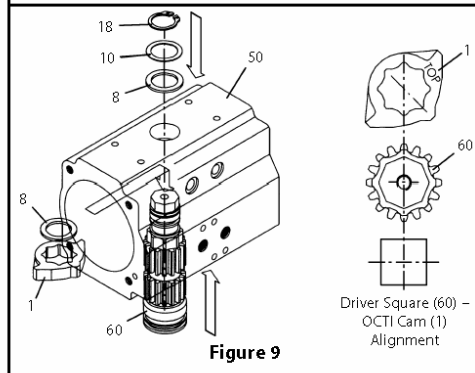

Figure 9
- C. Partially Insert the shaft (60) into the body (50). Install the octi-cam (1) onto the shaft in the orientation shown in (Figure 9). The edges of the octi-cam (1) should align with the edges of the square in the bottom of the shaft (60). Insert the internal thrust bearing (8) over the octi-cam (1). Fully insert the shaft into the body (50).
- D. Install the external thrust bearing (8), thrust washer (10), and the spring clip (18).